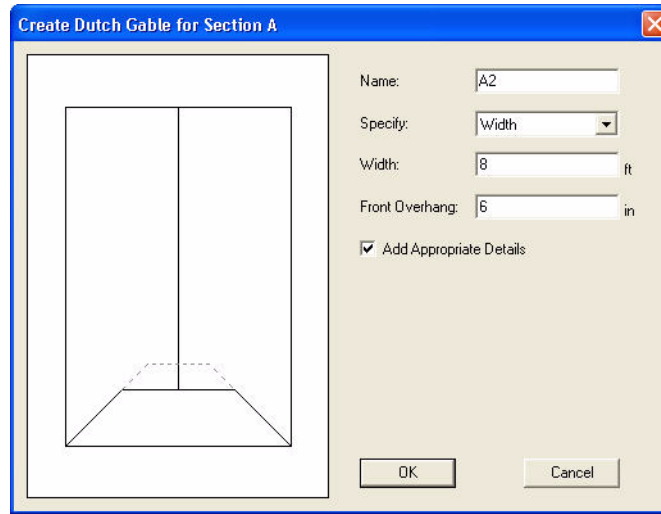

Figure 3–1 The Create Dutch Gable for Section A window
The **Create a Dutch Gable** window appears, as in *Figure 3–1*.
2. Set the **Name**, **Specify**, **Width**, and **Front Overhang** boxes to match those in *Figure 3–1*, and ensure that the **Add Appropriate Detail** check box is selected.
4. Select the eave line that the dutch gable will face, as in *Figure 3–2*.